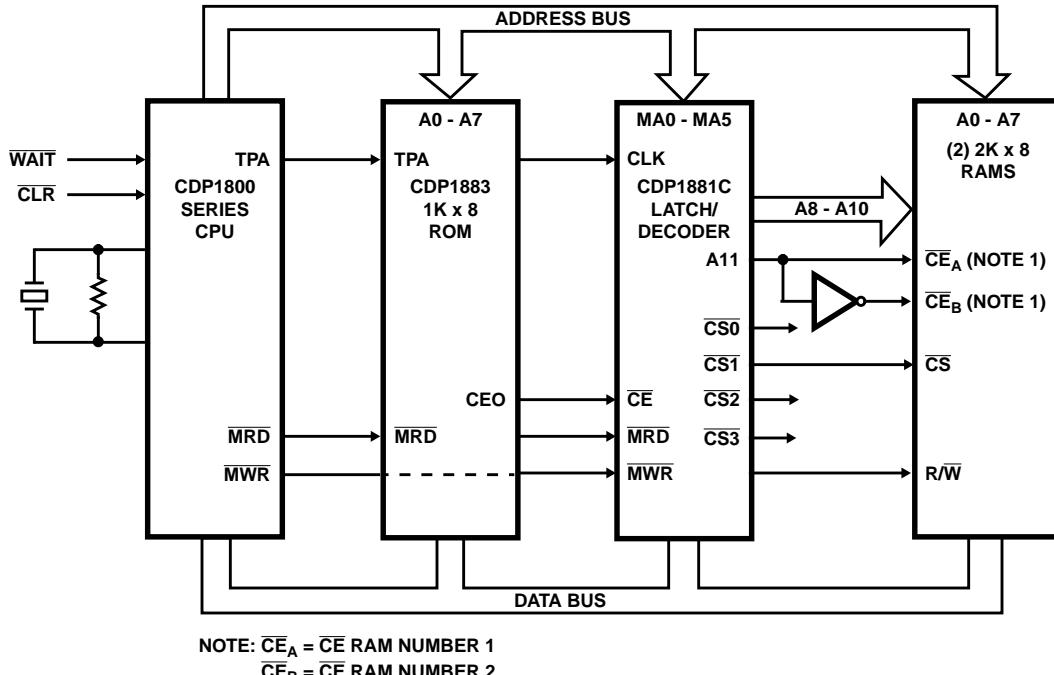

FIGURE 4. MINIMUM 1800-SERIES USING THE CDP1881C
The CDP1881C is provided with  $\overline{\text{MRD}}$  and  $\overline{\text{MWR}}$  inputs for controlling bus contention, and is especially useful for interfacing with RAMs that do not have an output enable function (OE). Figure 4 shows the CDP1881C in a minimum system configuration which includes the CDP1833 ROM (1K x 8) and two 2K x 8 RAMS. The CDP1881C in this example performs the following functions: